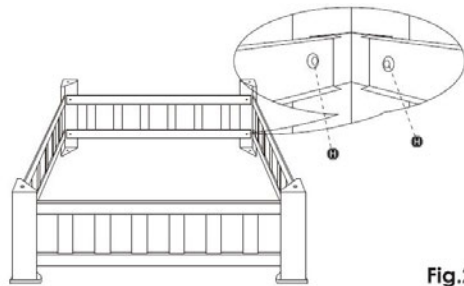

Fig.2
**Step 2)** Attach Frame Support Parts (C) to Legs (B) by using Bolts (H). Tighten all hardware accordingly with an Allen Wrench (J) (provided) and adjustable wrench until all pieces fit together securely.Turn the assembled fire pit frame over so that it sits securely (legs down) on a flat surface (View Fig.2).